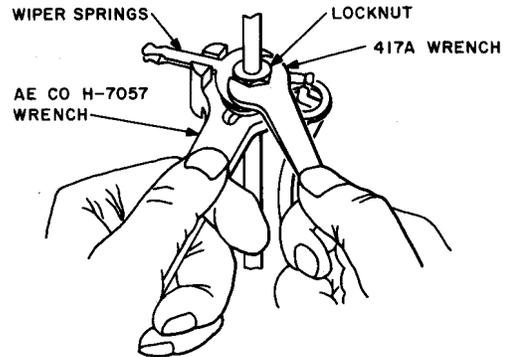

Fig. 9—Method of Aligning Wiper Springs Vertically
- (1) Where wiper springs are assembled to the hub with a clamping nut, align the wiper springs vertically by loosening the locknut at the top of the wiper with the 417A wrench. Place the A.E. Co H-7057 wiper wrench over the wiper with the springs of the wiper in the slot designed to hold them. Then retighten the locknut. (See Fig. 9.)
- (2) Where the wiper springs are permanently fastened during manufacture, the springs cannot be realigned. Where the wiper springs are not in proper vertical alignment, replace